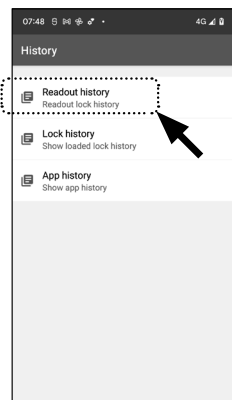

Fig. 90
- ④ Now tap on "Readout history". This will retrieve the history data from the cylinder (Fig. 90).